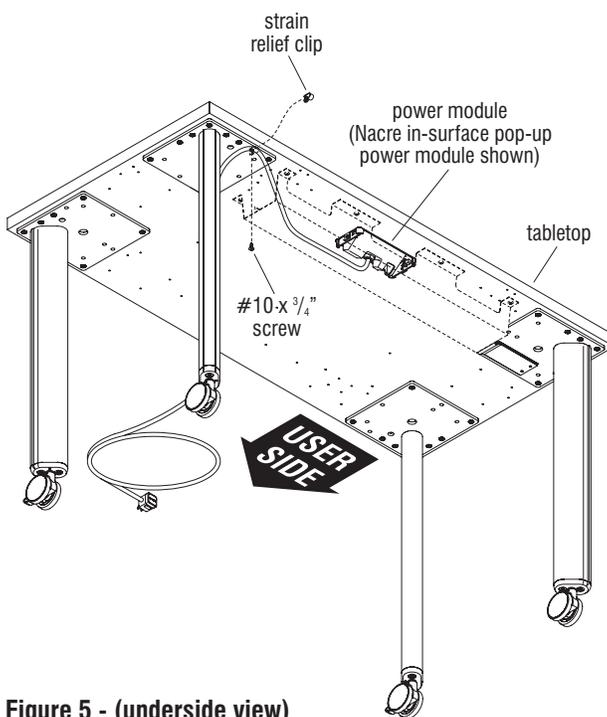

Figure 5 - (underside view)
3. Insert the cable into the openings of the clips. Secure the clips to the tabletop using one $\#10 \times \frac{3}{4}$ " screw per clip (Figure 5 & Detail A).